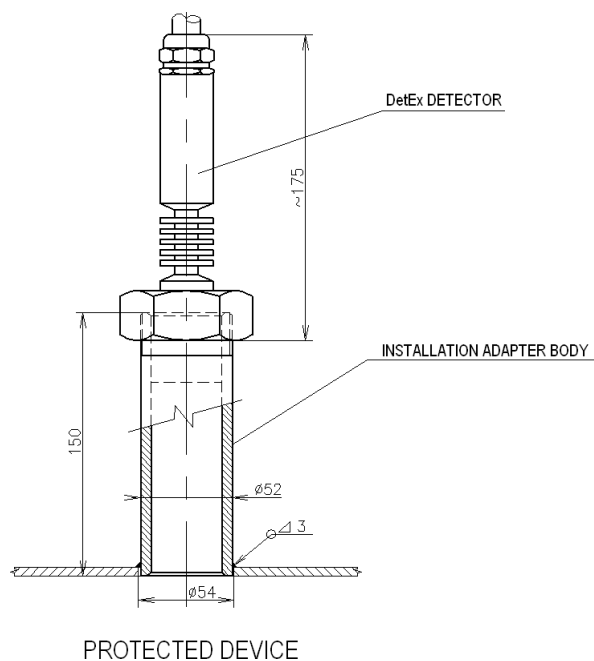

Fig. 2b)
- a horizontal wall perpendicularly according to Figure 2b)